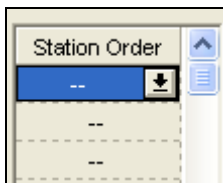

Figure 17.2.13
2. Use the drop down arrow to the right of the “--” symbols to change to a station number (Figure 17.2.13).